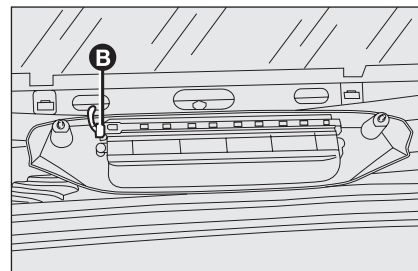

fig. 38
- disconnect connector **B-fig. 38** and remove the light unit;